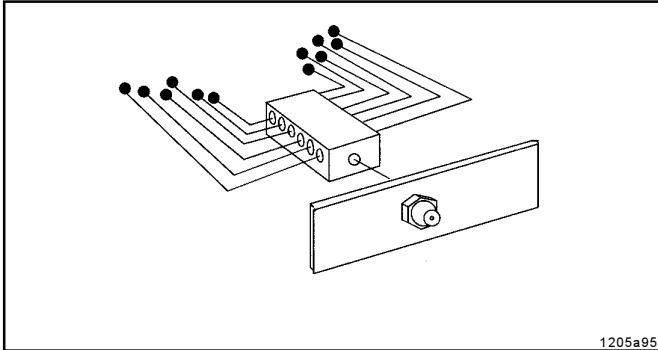

Fig. 5 - Central lubrication point
- QUICKLUB progressive metering devices offer the option of combining several lubrication points on a machine to one or more central lubrication points, as shown in Fig. 5 which illustrates this basic feature.
- Progressive metering devices can be used in two-line or single-line centralized lubrication systems in order to increase the number of outlets of multiline pumps or to subdivide the single metering devices and measuring valves (Fig. 5 - 9) also as secondary metering devices in large and small oil circulating systems.